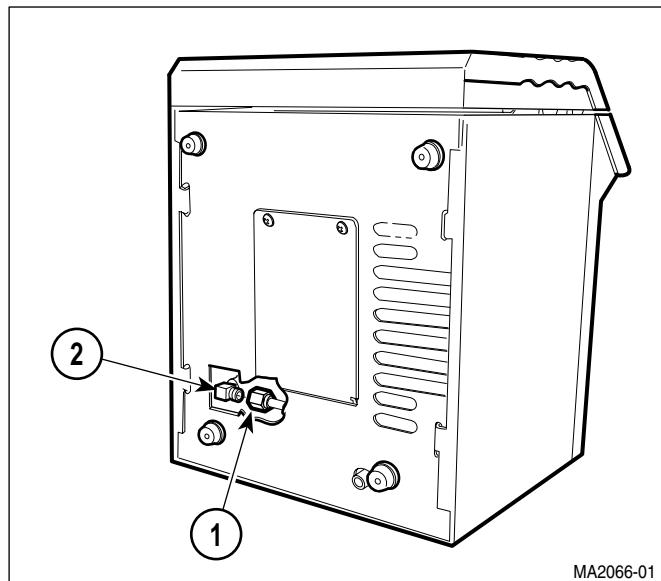
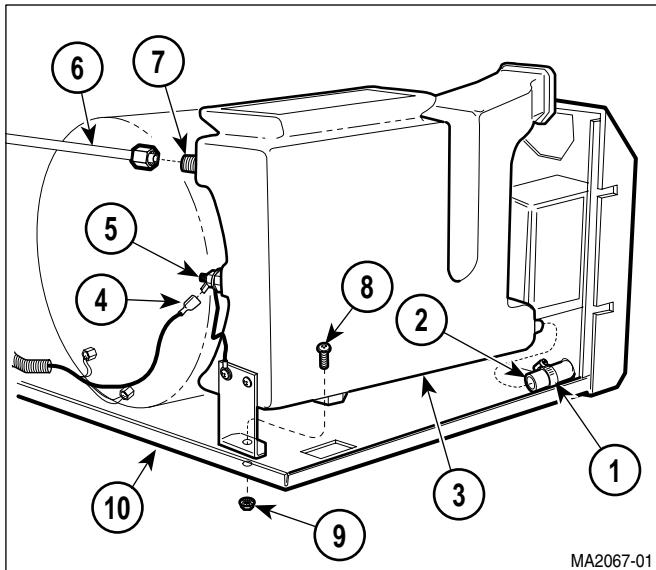

Figure 4-24. Condensing Tank Assembly Fill Tube Disconnection / Connection
Figure 4-25. Condensing Tank Assembly
- (1) Drain water from condensing tank.
- (2) Turn sterilizer onto its back.
- (3) Disconnect fill tube (1, Figure 4-24) from elbow (2).
- (4) Turn sterilizer upright.
- (5) Remove top cover (Refer to para 4.2).
- (6) Remove back panel (Refer to para 4.5).
- (7) Remove bellows assembly (Refer to para 4.7).
- (8) Loosen hose clamp (1, Figure 4-25) and remove sight/drain tube (2) and hose clamp from condensing tank assembly (3).
- (1) Position condensing tank assembly (3, Figure 4-25) on base (10) and secure using screw (8) and locknut (9).
- (2) Connect vent tube (6) to fitting (7).
- (3) Connect wire (4) to terminal (5).
- (4) Install hose clamp (1) and sight/drain tube (2) on condensing tank assembly (3). Tighten hose clamp.
- (5) Install bellows assembly (Refer to para 4.7).
- (6) Install back panel (Refer to para 4.5).
- (7) Install top cover (Refer to para 4.2).
- (8) Turn sterilizer onto its side.
- (9) Connect fill tube (1, Figure 4-24) to elbow (2).
- (10) Turn sterilizer upright.
- (11) Refill condensing tank with distilled water.